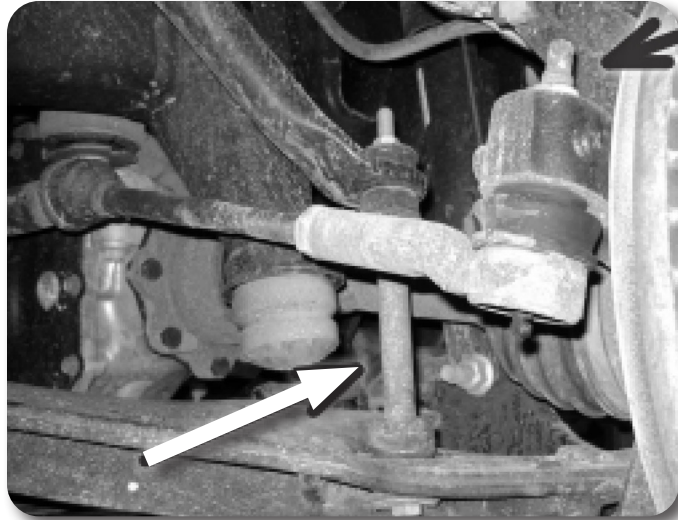

Figure 1
1. Remove the existing sway bar end links by removing the top and bottom nylock nut on the link. The new links assemble like the factory ones that were removed. Fig. 1